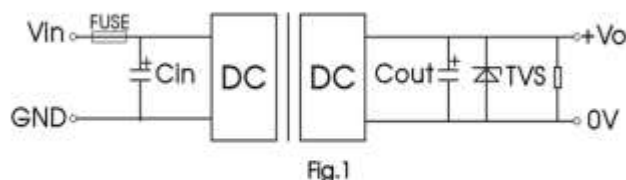

Fig.1
- (1) We recommended using the recommended circuit shown in Fig.1 during product testing and application, otherwise please ensure that at least a 220 μ F electrolytic capacitors is connected at the input in order to ensure adequate voltage surge suppression and protection.
- (2) We recommended increasing the value of C_{in} and pay attention to the unstable input voltage if the product input side is paralleled with motor drive circuit and/or larger energy transient circuits, to ensure the stability of input terminal and avoid repeatedly start-up problems due to input voltage lower than under-voltage protection point.
- (3) We recommended increasing the output capacitance with limited to the capacitive load specification and/or increasing the voltage clamping circuit(such as TVS) if the output terminal is inductive device such as relay or a motor, to ensure adequate voltage surge suppression and protection.
- (4) Input and/or output ripple can be further reduced by appropriately increasing the input & output capacitor values C_{in} and C_{out} and/or by selecting capacitors with a low ESR (equivalent series resistance). Also make sure that the capacitance is not exceeding the specified max. capacitive load value of the product.